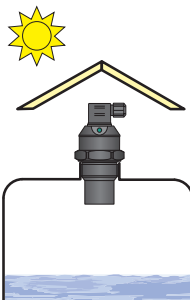

Fig. 14: Shielding cover against direct sunlight
- If installation in places with direct sunlight is inevitable, it is necessary to mount a **shielding cover** above the device (Fig. 14).